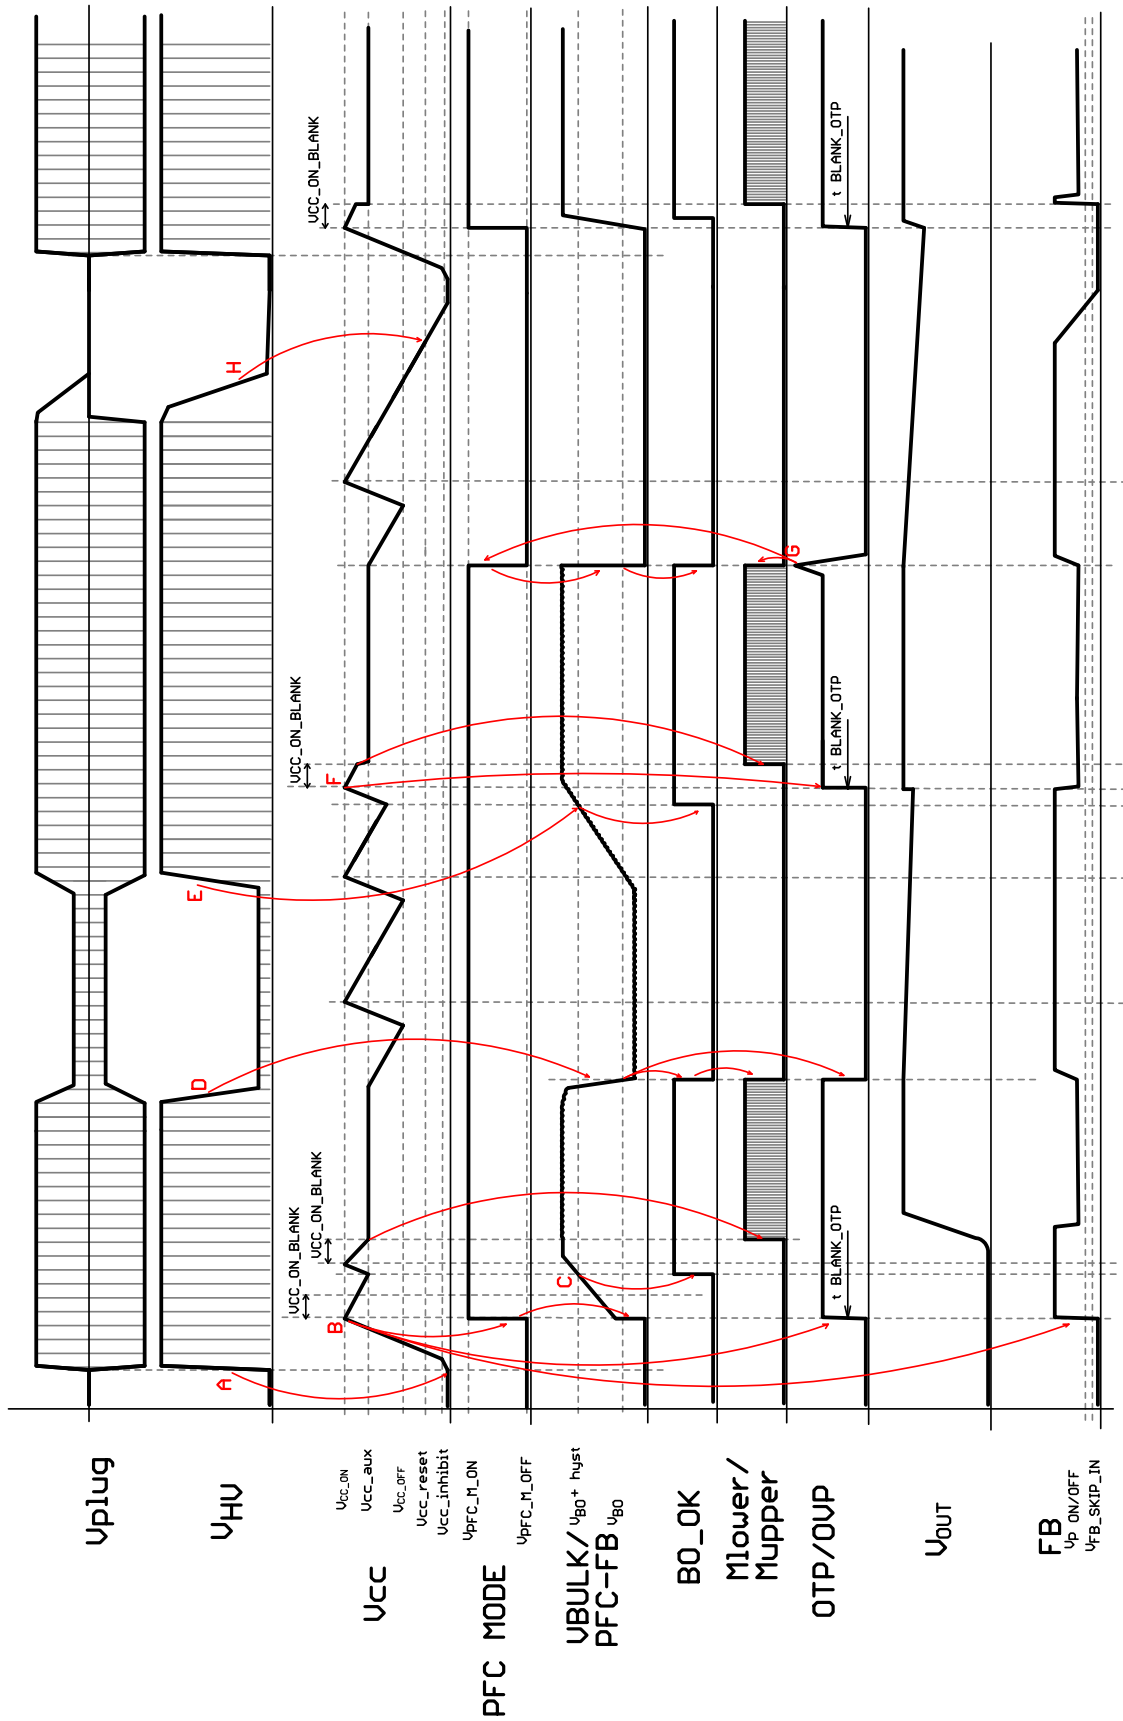

Figure 23. Application Start, Brown-out Off and Restart, OVP/OTP Latch and then Restart
**1. Application start, Brown-out off and restart, OVP/OTP latch and then restart – Figure 23**
Operating waveforms descriptions for this figure is similar to one for Figure 23 from point **A** till point **G** – with one difference. The skip mode operation (FB < VFB\_SKIP\_IN) blocks the IC startup after first VCC\_ON event instead of BO\_fault.